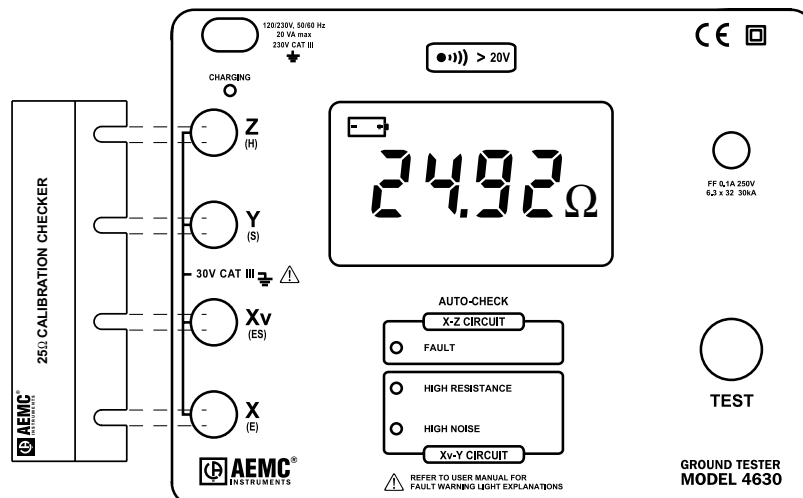

Figure 21
- Insert the calibration checker as shown in Figure 21.
If a check performed on the Model 4630 or 4620 displays a reading between 24.1 Ω and 25.9 Ω (as in Figure 21), the instrument is in good working condition. The readings are for an ambient temperature between 68° and 79°F (25°C $\pm$ 3°C).